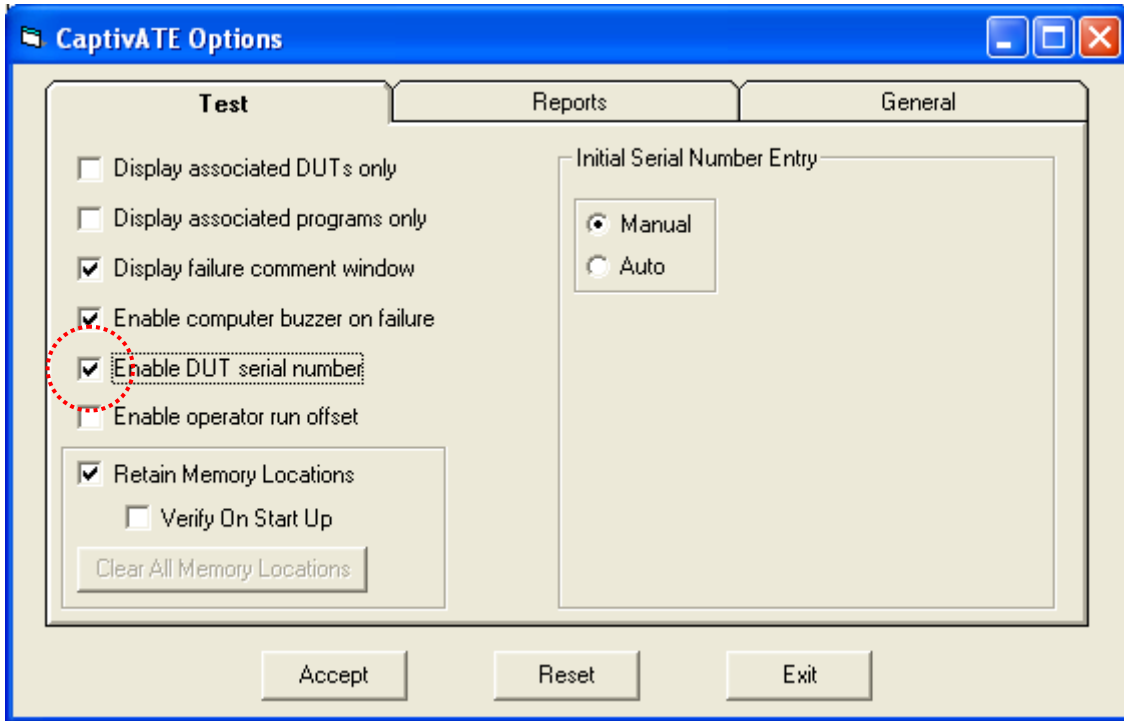

Figure 25 *Tools/Options/Test* Screen: Enable DUT Serial Number
1. In the *Tools/ Options/Test* screen (Figure 25), click the **Enable DUT serial number** checkbox. The default is Manual.